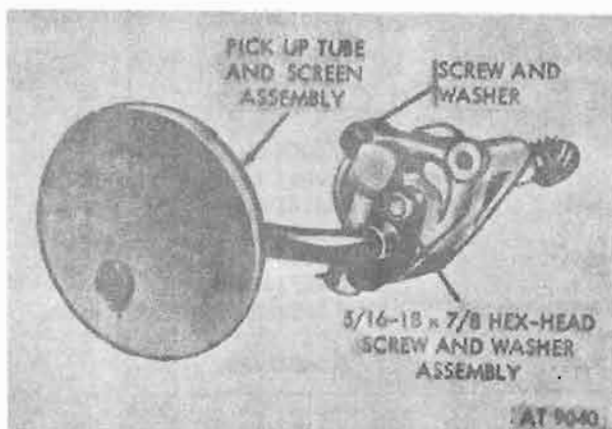

Figure 4-184. Oil pickup tube and screen assembly
a. *Remove Pickup Tube and Screen Assembly.* Remove hex-head capscrew and washer assembly holding pickup tube to oil pump cover, and remove pickup tube and gasket. Discard gasket (fig. 4-184).